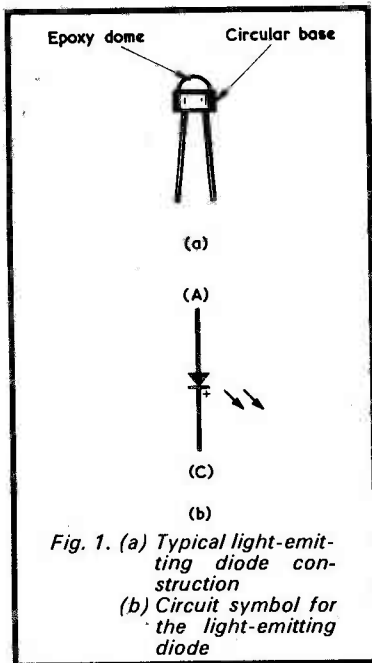

Fig. 1. (a) Typical light-emitting diode construction
A SEMICONDUCTOR DEVICE WHICH offers a number of interesting applications to both the home-constructor and the experimenter is the light-emitting diode. Current versions of the light-emitting diode have the basic appearance shown in Fig. 1(a). A circular base incorporates a flat p-n junction which constitutes the diode. Above this is a roughly hemispherical dome made of clear or red tinted epoxy resin. This dome functions partly as a lens and partly to provide a non-reflective outer surface which allows the maximum amount of light generated in the junction to be passed through to the outside air. The diameter of the base is less than quarter of an inch, the actual dimensions varying according to type number.
The most common junction material is gallium arsenide phosphide and this produces a red light near the low wavelength end of the visible spectrum. The diode is provided with two or three lead-outs. In the latter case, connection is made to two of the lead-outs only. The light-emitting diode is referred to, in abbreviated form, as an i.e.d. or LED. Since some versions of the diode emit infra-red waves, the term 'visible light-emitting diode' may also be encountered, this being abbreviated to v.i.e.d. or VLED. A common circuit symbol for the light-emitting diode (which in this article is the term we shall use for the type which emits visible red light) is given in Fig. 1(b). Note that, in common with normal diode practice, the end at which the plus sign appears is referred to as the cathode (C or K) of the device. The other terminal is the anode (A).
Road, Englefield Green, Egham, Surrey. The i.e.d. type NKT7011 is rated at a maximum forward current of 50mA and a maximum power dissipation of 100mW. It is very probable that other i.e.d.'s having the basic construction shown in Fig. 1(a) and having approximately the same maximum forward current rating will give a similar performance, but the author cannot vouch for this as he has checked the circuits with the NKT7011 only. It should be added that some earlier i.e.d.'s had maximum forward current rating figures which were considerably in excess of 50mA and these would not be suitable for the purposes to be described.